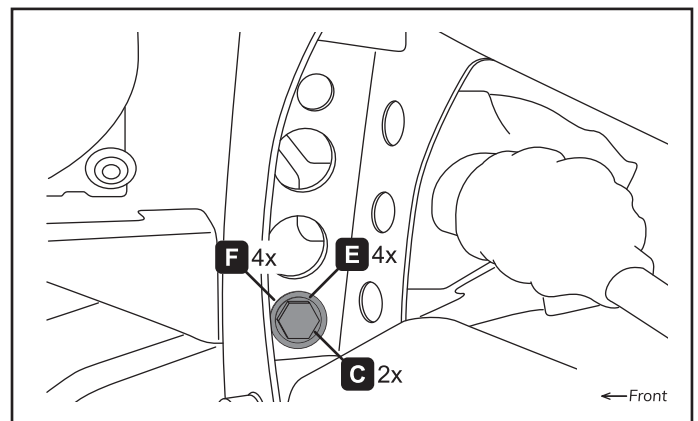

Figure 10. Viking rear bolt location
**Viking:** Install bolts (C), washers (E, F) and nuts (D) as shown in figures 10 and 11.